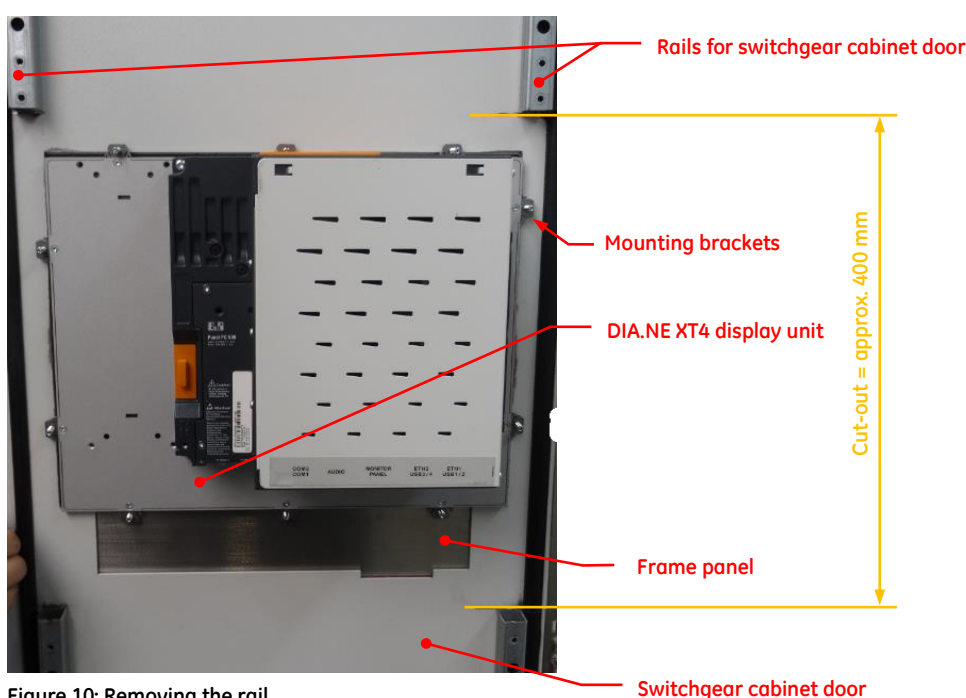

Figure 10: Removing the rail
As the DIA.NE XT4 takes up more space due to the width of the display unit, further modifications of the switchgear cabinet door are required. Figure 10 shows the back of the switchgear cabinet. In order to install the DIA.NE XT4 display unit, part of the rail for the switchgear cabinet door has to be cut out, otherwise a collision would result when the display unit was installed.
- ✓ Mark the areas to be cut out (see Figure 10)
Removing part of the rail (see Figure 10) is only necessary where the switchgear cabinet door is 500mm wide, as otherwise the mounting brackets for the DIA.NE XT4 display unit will collide with the rails on the switchgear cabinet door, making installation impossible.